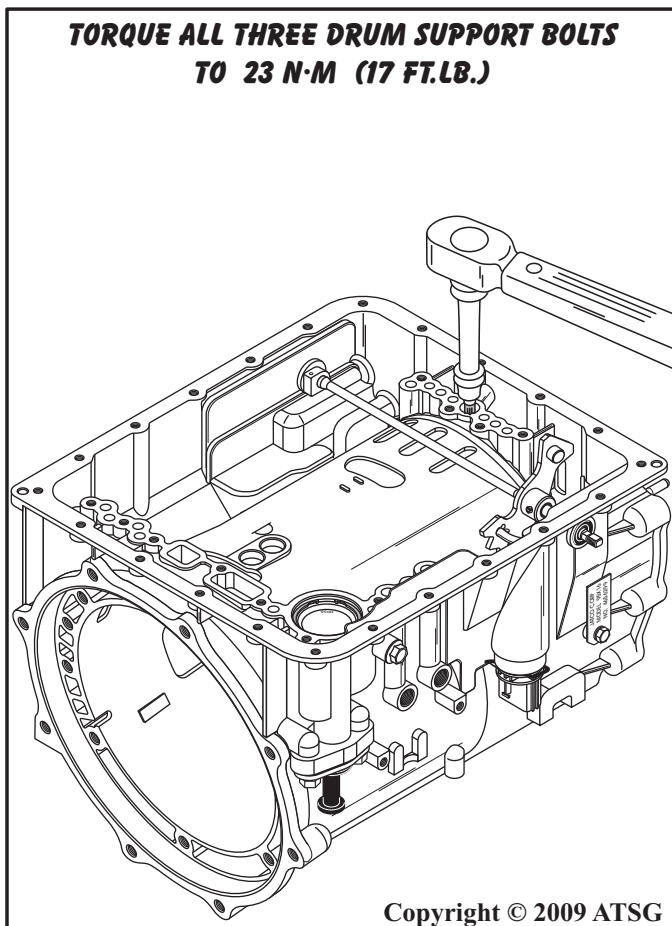

Figure 198
21. Now you can torque the 3 drum support bolts to 23 N·m (17 ft.lb), as shown in Figure 198.